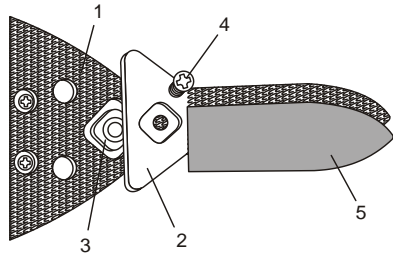

Fig. 6
1. Remove sandpaper from the main sanding pad (1) (Fig. 6).
2. Place the detail sanding accessory (2) onto the main sanding pad mounting hole (3).
3. Fasten the detail sanding accessory to the main sanding pad using the screw (4) provided.
5. Install the appropriate sandpaper (5) to the detail sanding accessory.